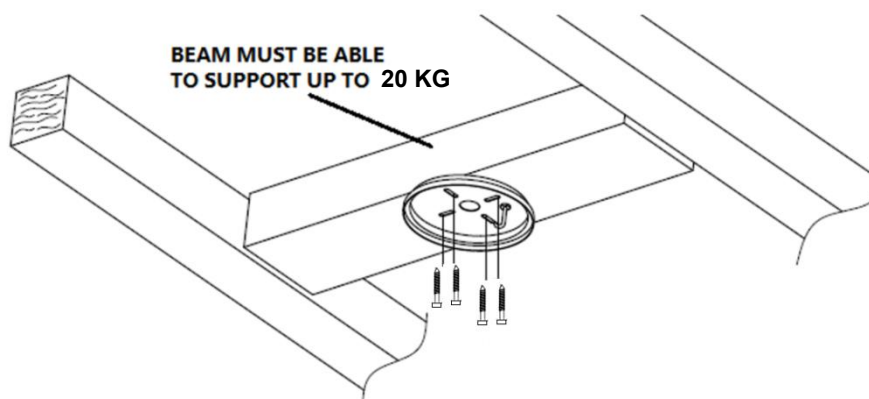

Fig. 2
- Install the hanging bracket to the ceiling joist or structure that is capable of carrying a load of at least 20kg, with the 4 long screws provided. Ensure at least 30mm of the screw is threaded into the support. (Fig. 2)